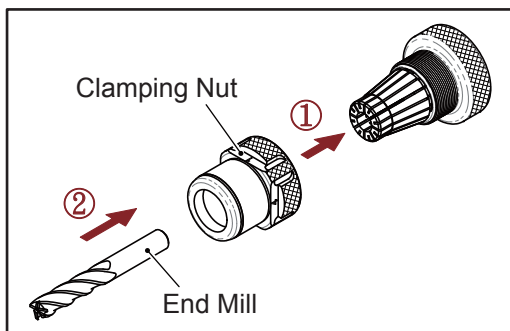
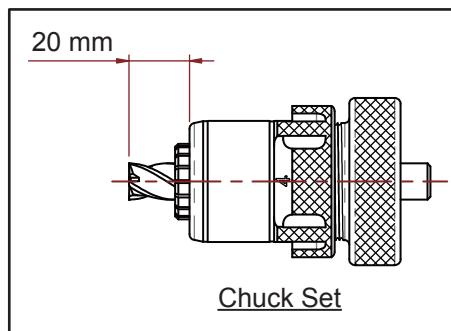

Fig. 5-2
Fig. 5-3
3. Screw in a little bit by clamping nut (Fig. 5-2 Step ①), then insert the End mill shank into the clamping nut (Fig. 5-2 Step ②) until the End mill is out of the clamping nut about 20 mm. (Fig. 5-3)